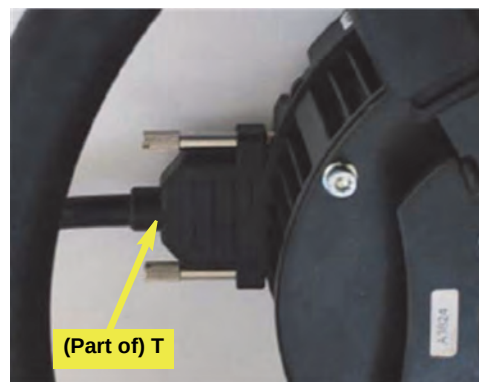

Figure 7b: Junction box comms cable connected to steering wheel assembly
- c. Clip the junction box **T** into place on its bracket **U** (neither shown) then connect **T**'s 15-pin connector cable to the communications port on the steering wheel assembly (Figure 7b). Use clip **W** suitably (not shown).